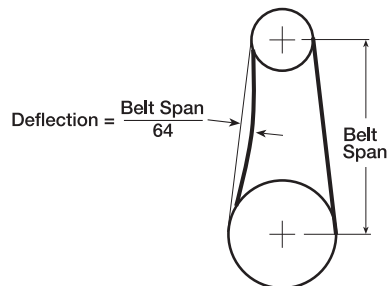

Figure 18b
- 8b. **Sizes 180-480:** Belt tension should be adjusted to allow 1/64 in. (0.397 mm) of deflection per inch of belt span. For example, a 15 in. (381 mm) belt span should have 15/64 in. (0.234 mm) (or about 1/4 in. (6 mm)) of deflection with moderate thumb pressure at mid-point between pulleys; see *Figure 18b*.